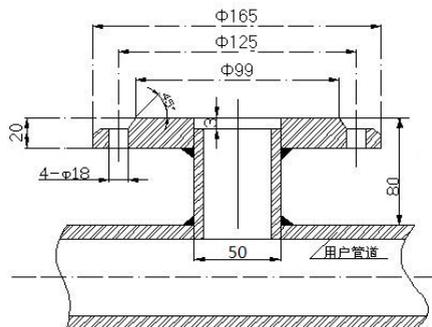

Figure 49 Welding of the mounting base
Before installation, a small hole with a diameter of 50mm should be opened on the pipe under test, the size of which is consistent with the outer diameter of the connecting pipe of the installation base. The welding between the mounting base and the pipe under test is shown in Figure 49.
(3) Determine the insertion depth of the insertion type electromagnetic (the positions of the two electrodes on the insertion type electromagnetic flow sensor in the pipeline).
(4) Install the DN50 ball valve on the mounting base as shown in Figure 49. Note that the long cavity of the ball valve is up. Check whether the ball valve can be fully opened and fully closed. Tighten the compression nut and set screw, and pay attention to the direction mark of the sensor and the direction of the fluid flow.
(5) Determination of the insertion depth of the insertion type electromagnetic flow sensor: For $D \leq 400\text{mm}$, the insertion depth is: 1/2 times the pipe diameter. For $D > 400\text{mm}$, the insertion depth is: 1/4 times the pipe diameter. (The meter coefficients of the two places are different)